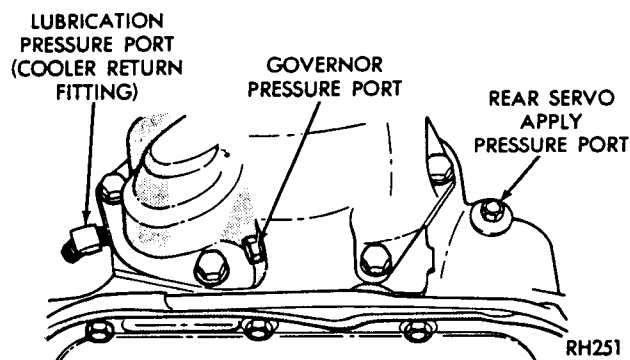

Fig. 2—Pressure Test Locations
(1) Connect a 0-100 psi pressure gauge, to governor pressure take-off point, located at lower left side of extension near the mounting flange (Fig. 2).
(2) Operate transmission in third gear to read pressures and compare speeds shown in chart.